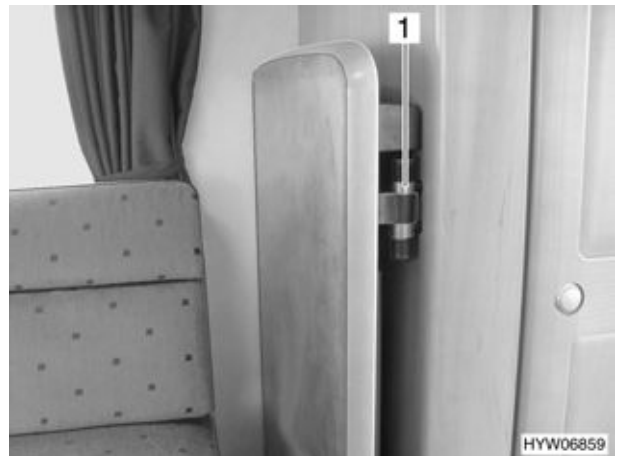

Fig. 5 Dinette table secured (B 634)
- Before commencing the journey, put the dinette table to the left of the toilet and secure to the holder (Fig. 5,1) provided for this purpose.